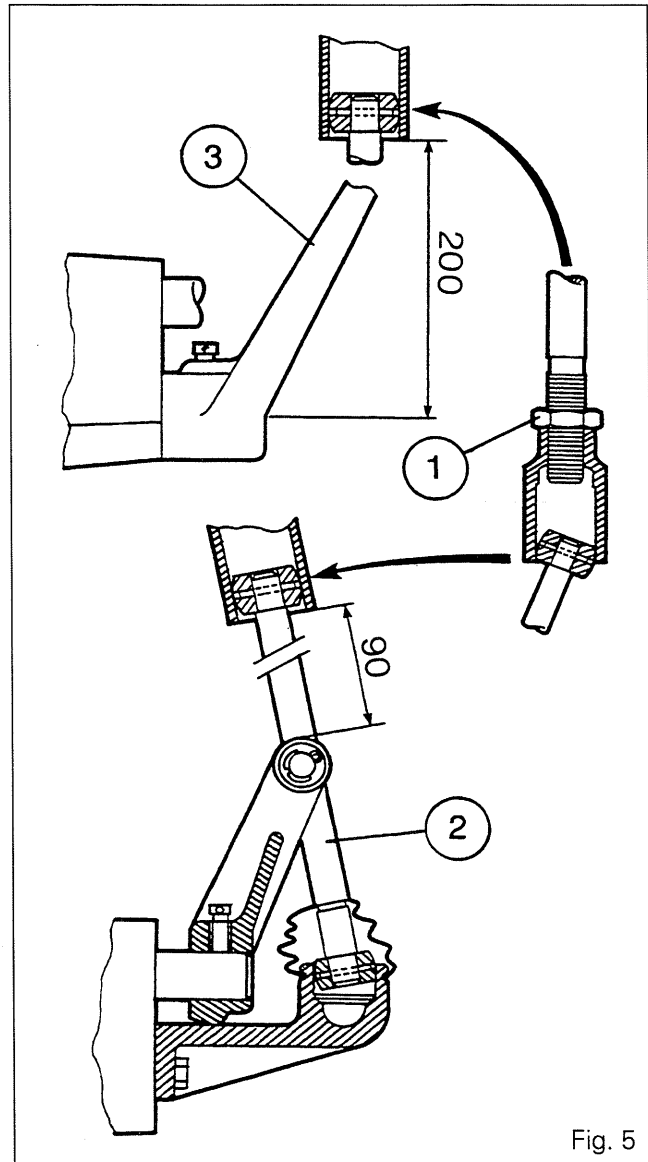

Fig. 5
26. If necessary, adjust the balls of the gear lever (**2**) and reversing lever (**3**) in the neutral position as per Fig. 5. Tighten the nuts (**1**) to a torque of 44 - 55 Nm (Fig. 5).